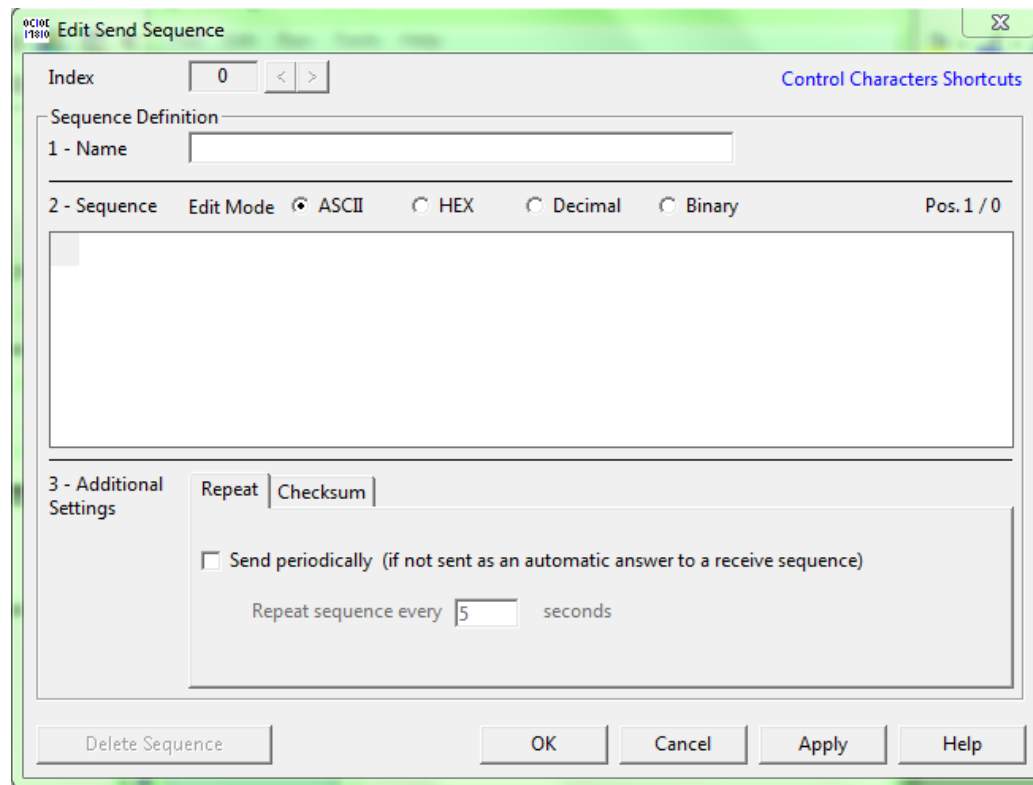

Figure 6: 'Edit Send Sequence' window
4. Click on Edit/Edit Send Sequence List. A 'Edit Send Sequence' window will open. [Figure 6]